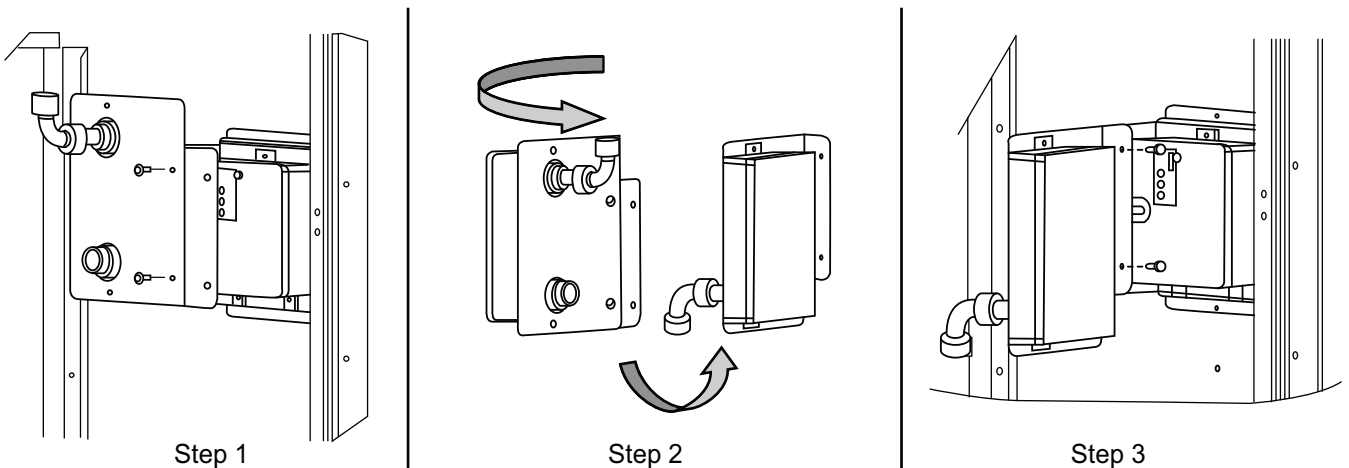

Fig. 46 — Completing Installation of Return-Air Smoke Sensor
1. Unscrew the two screws holding the return air smoke detector assembly. See Fig. 46, Step 1. Save the screws.
2. Turn the assembly 90 degrees and then rotate end to end. Make sure that the elbow fitting is pointing down. See Fig. 46, Step 2.
3. Screw the sensor and detector plate into its operating position using screws from Step 1. See Fig. 46, Step 3.